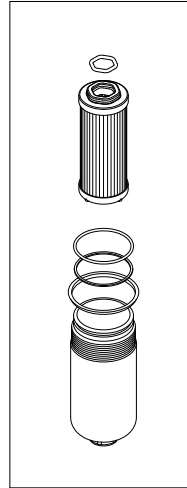

fig. 17
- (Fig. 17) Fit 1°: the anti-extrusion ring and 2°: the O-Ring in the bowl groove, insert the Hex Ring in the filter element cap